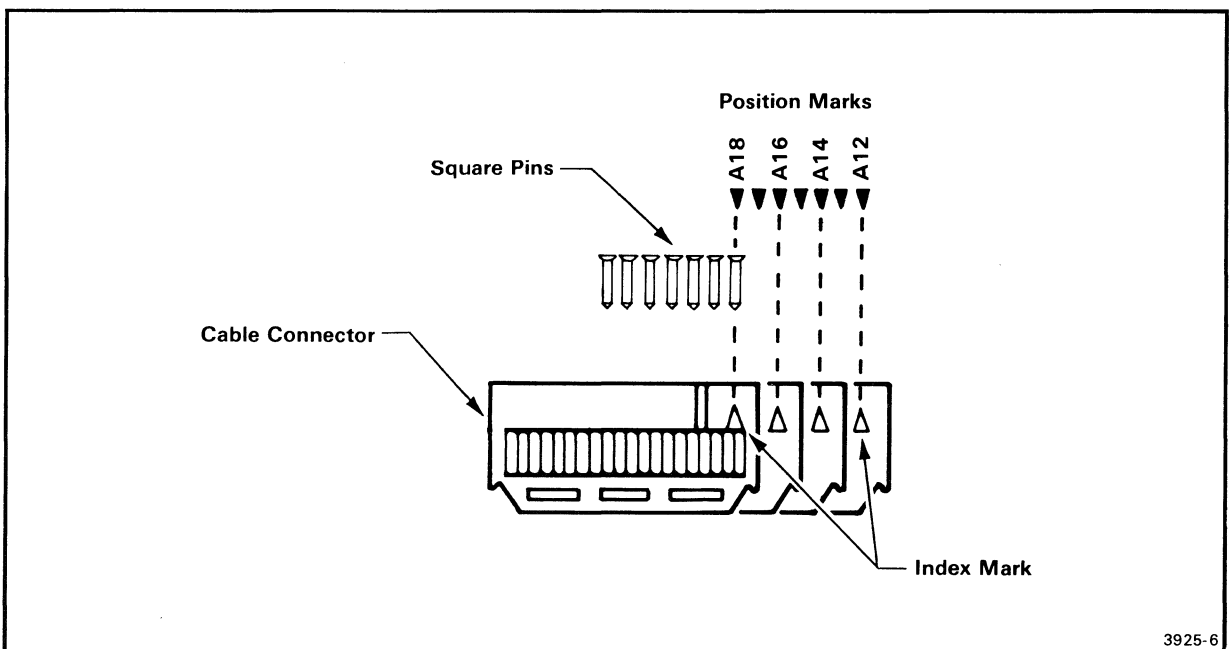

Fig. 2-4. Connecting P5140 to J5140.
4. As shown in Fig. 2-4, connect P5141 to J5141. Be sure to align the connector index mark with the proper position mark on the circuit board.